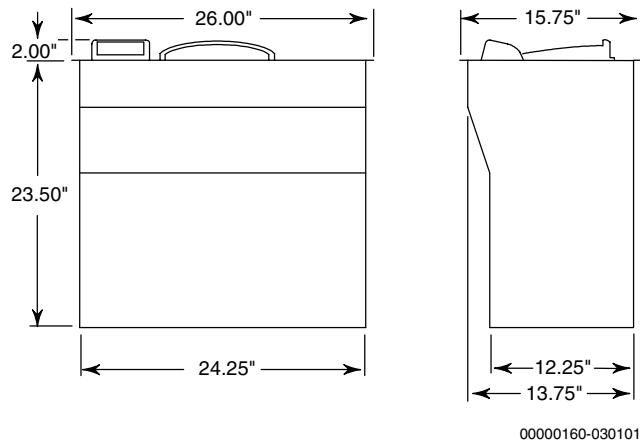

Figure 2-30. Cabinet Dimensions – Game King 13” Flat-Top
- Cabinet Dimensions – Figure 2-30